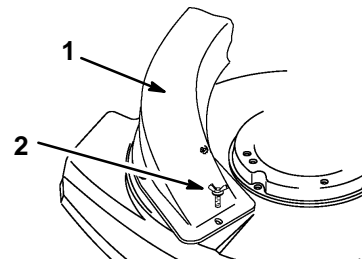

Figure 35
- Push the key hole slots on the chute down over the two shoulder bolts on the mower housing and slide the chute clockwise to lock it in place (Fig. 35).
- Secure with the wing screw (Fig. 35).